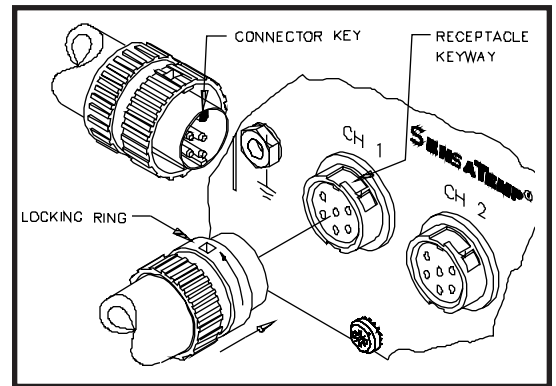

Figure 3. Handpiece Connection
9. Using Figure 3 as a guide, connect handpiece connector(s) to the power source Power Receptacle(s) in the following manner: